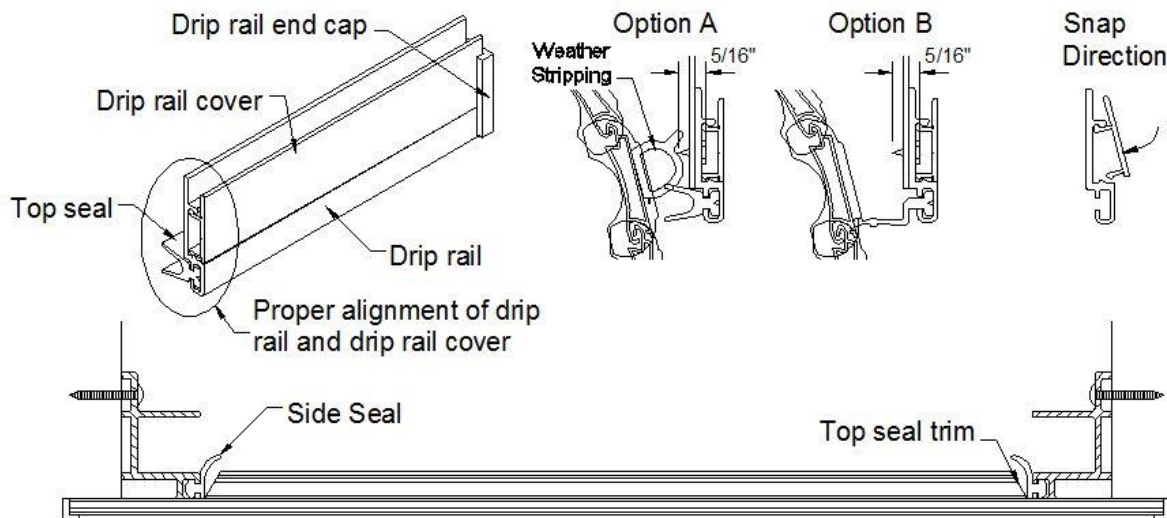

Fig. 11
- a) Clean the appropriate slat with a 50/50 isopropyl alcohol and water mixture. Let Dry. Attach bulb seal (weather-stripping) to door with the 'fin' of the extrusion on top so that when door is closed it will create a seal between header and slat assembly (see figure 11 option A).
- a) Center the drip rail/top seal in the compartment opening flush against the header. The ends should be even with the outer finishing flange on the track (Fig. 11).